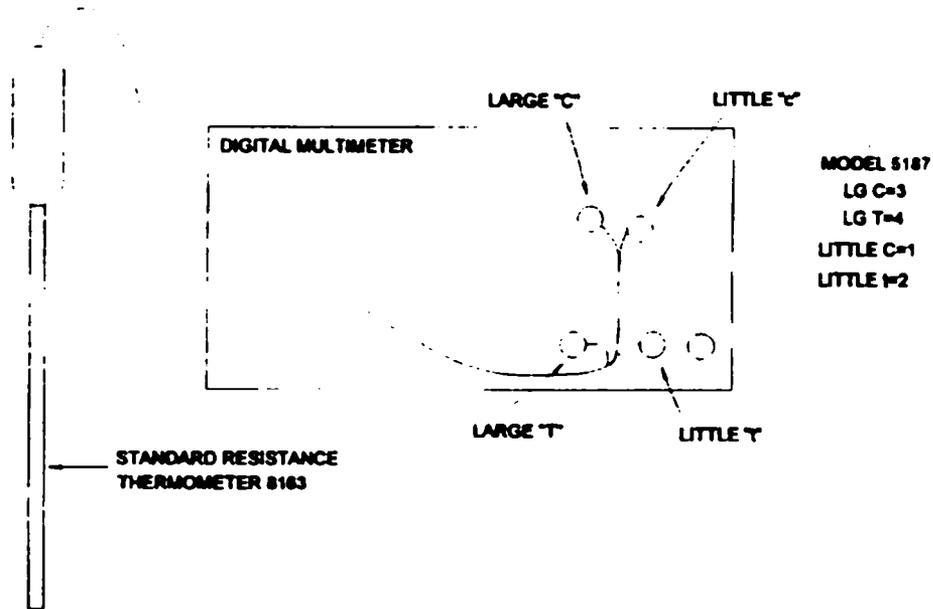

Figure 2.
4.2.2 Connect the Standard Resistance Thermometer to the Digital Multimeter as shown in Figure 2.